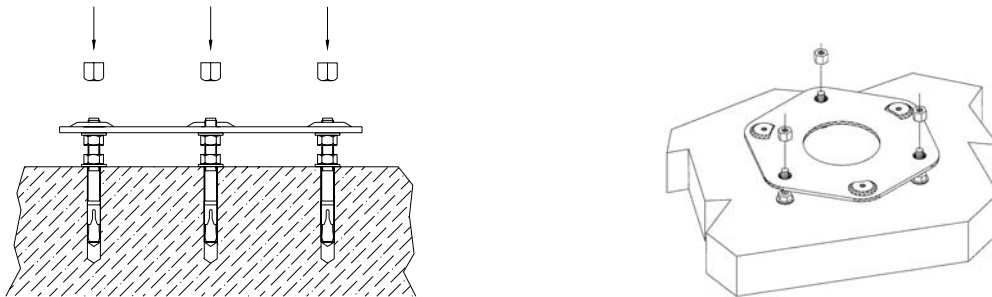

Fig.5
- Place the FMC-CBL base on the plugs, verify they are perfectly level and if necessary work on the hexagonal nuts to increase or decrease height of the plate (fig.5);